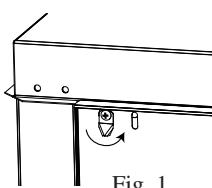

Fig. 1
- **Louvered Side Panels.** The louver panels have a locking latch on each top corner to secure it in place. To remove the louvered panel you will need to loosen the latch screws on either side of the panel. Loosen the screws enough to rotate the latch handle, but do not remove completely. Rotate the latch handle towards the center of the louvered panel (see fig. 1). Tilt the top of the louver panel outward away from the top pan and lift out from cooler.